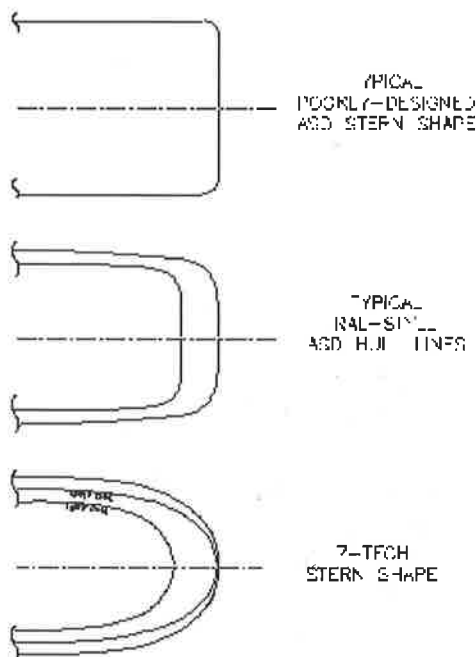

Figure A.5 A well-rounded stern with high freeboard characterises the Z-Tech "sea-going" stern
- For "sea-going" operations, the **Z-Tech** tug works astern in tractor mode, so the shape of this part of the hull is more rounded in plan than would typically be seen in any ASD design. (**Figure A.5**) However even with relatively flat transoms, RAL designed tugs have proven in practice to be virtually identical in performance ahead and astern, so there is no appreciable loss of BP or speed in this direction of operation. The increased flare and freeboard at the "aft" end is simply to ensure a drier operation when towing in this direction